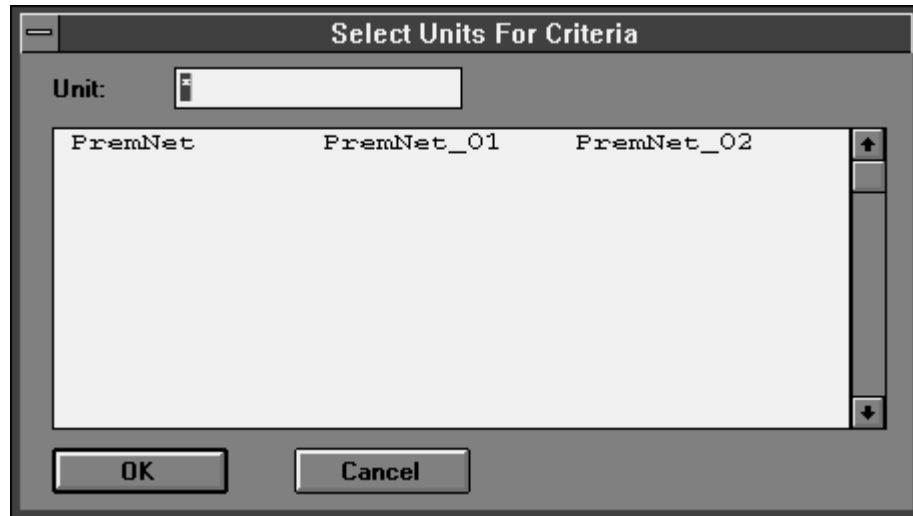

Figure 2-3. Select Units For Criteria
3. Select Unit from the dialog box. The available units are listed (refer to Figure 2-3).